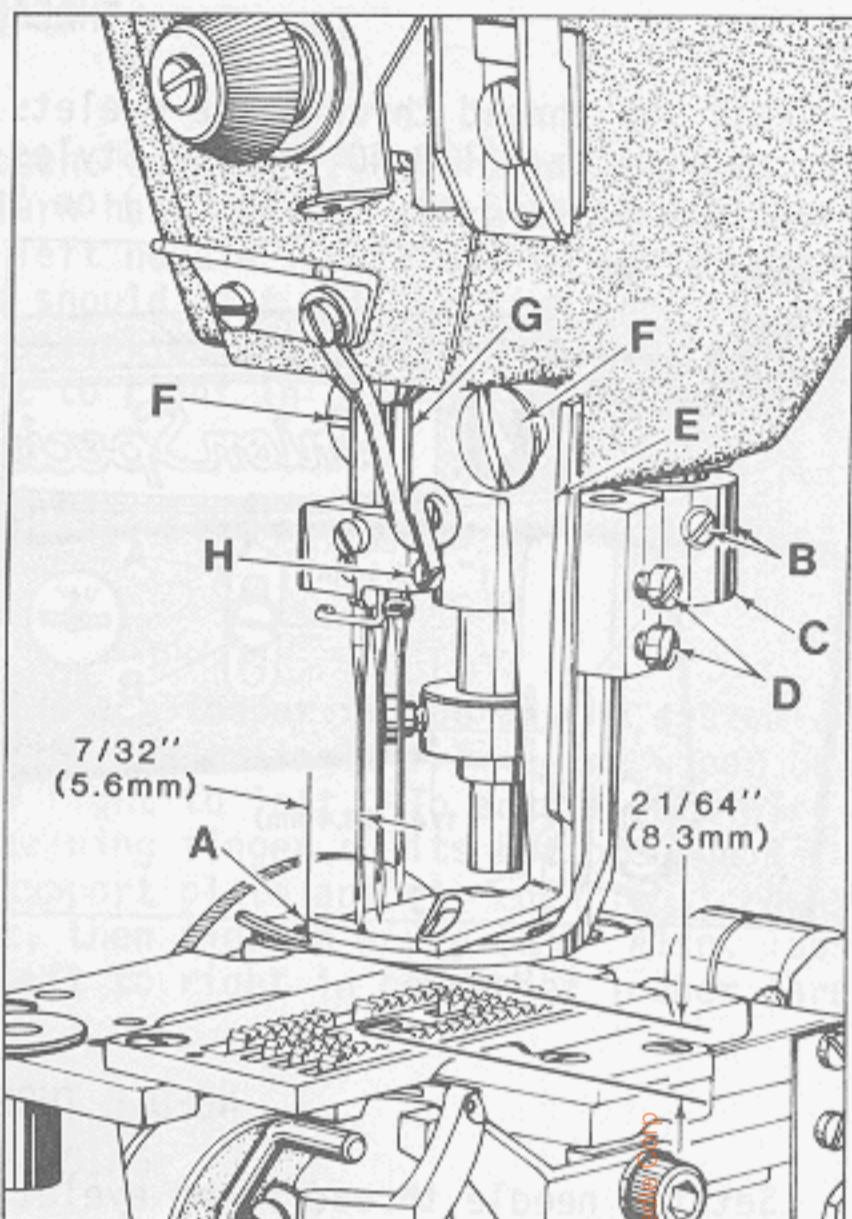

Fig. 16
With needle bar at top of its stroke and spreader at extreme left end of its travel, point of thread carrying notch (A, Fig. 16) should extend $7/32$ inch (5.6mm) to the left of the centerline of left needle. Adjustment can be made by loosening screws (B), reposition spreader as required being sure to push down on spreader holder carrier (K, Fig. 14) and up on spreader holder (L) while tightening screws (B, Fig. 16) because spreader holder (C) acts as lower thrust collar for spreader holder carrier.
Bottom surface of spreader should be set $21/64$ inch (8.3mm) from top of throat plate (See Fig. 16). At extreme right end of travel, spreader must be set to clear the shank of left needle by $1/64$ to $1/32$ inch (.4 to .8mm). Adjustments can be made by loosening screws (D), reposition spreader as required and retighten screws.
Stationary thread guide (E, Fig. 16) should be set to clear right needle by approximately $3/32$ inch (2.4mm). Attaching screws (F) will allow repositioning as required. Moveable thread eyelet (G) should be positioned with its eye directly over the front end of slot in stationary thread guide (E). With needle bar at bottom of stroke, lower surface of thread eyelet (G) and top of thread guide (E) should have the clearance equivalent to the shank of a Type 121 needle, approximately .080 inch (2mm). Screw (H) will allow repositioning as required.